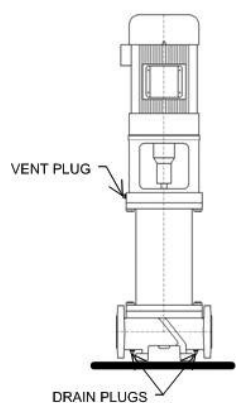

Figure 17: Vent/Drain Plug Locations
2. Drain the liquid from the pump by removing the lower drain plugs and the upper vent plug. See Figure 17.